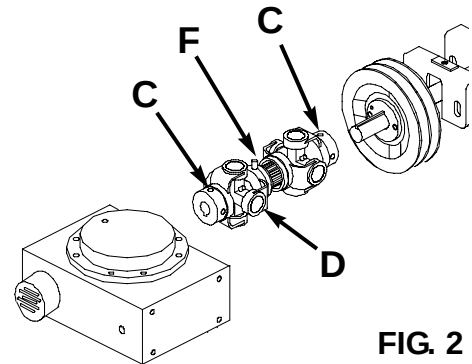

FIG. 2
2. Loosen set screws C(refer to Fig. 2) where the u-joint couples to the drive shaft.
4. Slide u-joint (D) off the drive shaft to create a gap in the drive line to allow removal of belts.